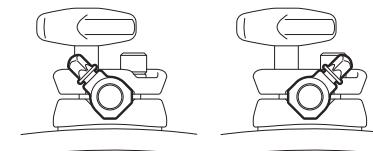

Fig. 5-B / 図5-B
- A Stop Lock is provided to keep the Z-Rod secure while playing. To set the Stop Lock, loosen the Key Bolt and slide the Stop Lock against the Rod Clamp (Fig.5-A). The Stop Lock and the Rod Clamp are designed to lock together when the Stop Lock is positioned as shown (Fig. 5-B). Choose the position that allows convenient access to the Key Bolt.